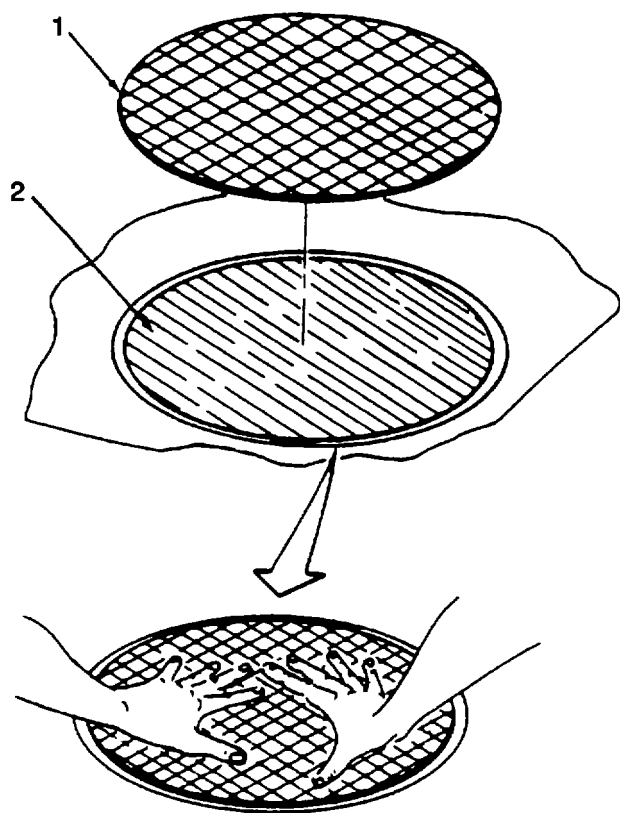

Figure 2-29. Applying Reinforcement Patch
(i) Wet fabric reinforcement patch (1, figure 2-29) with acetone (item 3, table 2-11). Shake out excess acetone.